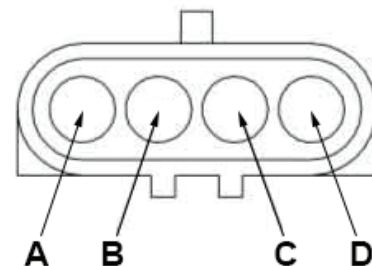

Figure 23
5. Attach multimeter leads to pins “A” and “B” of limit switch connector (see Figure 23). This contact is normally closed and opens when pressed.
7. Attach multimeter leads to pins “B” and “C” of limit switch connector (see Figure 23). This contact is normally open and closes when pressed.